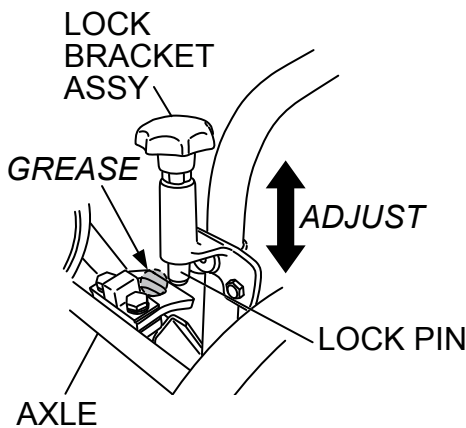

Figure 6. Lock Bracket Height Adjustment
3. Adjust the height of the lock bracket assembly to align lock pin with axle stopper hole (Figure 6).